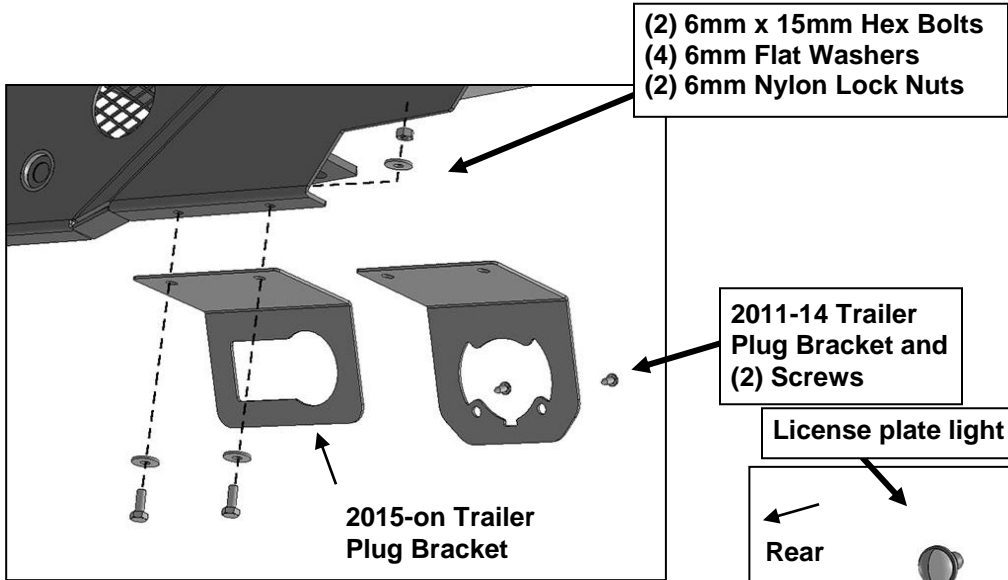

Fig 5
NOTE: On some models/years, the factory tow hitch may have support straps attached to the side of the frame, **(Figure 5)**. Use the included (2) 14mm x 45mm Hex Bolts, (4) 14mm Flat Washers and (2) 14mm Nylon Lock Nuts to attach the straps to the top mounting holes.